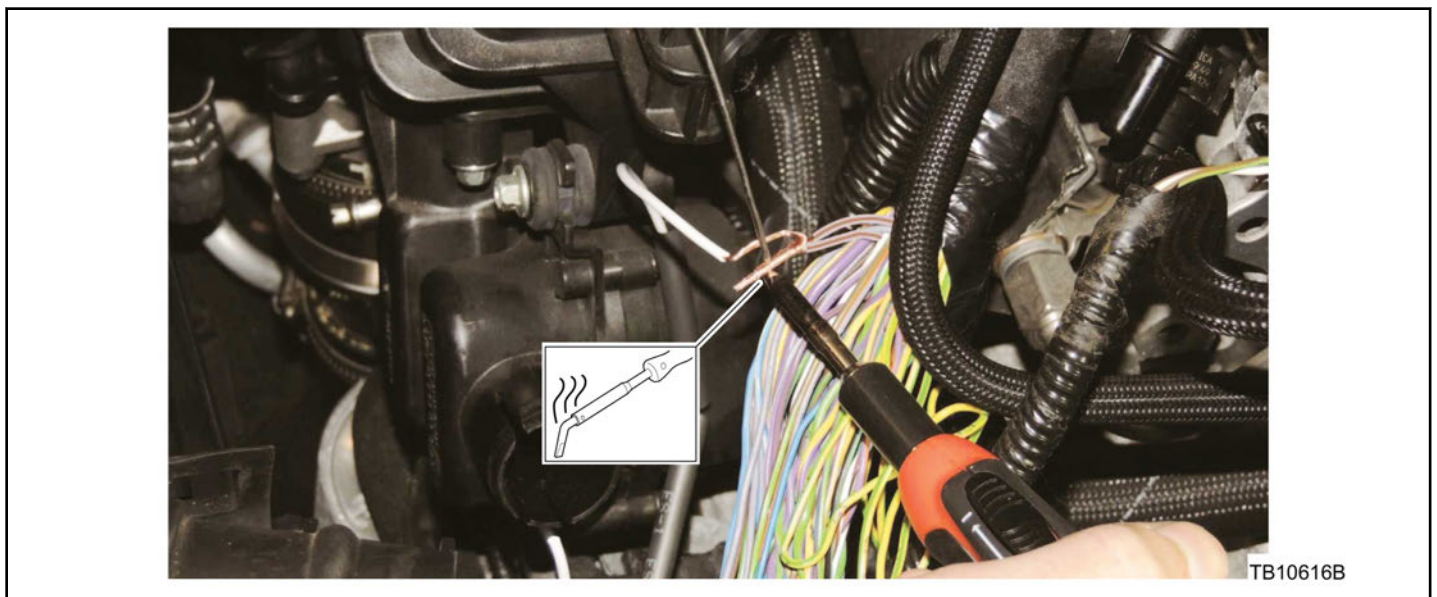

Figure 9 - Article 15-0007
- c. Position two (2) lengths of ES-1 double wall heat shrink tubing onto each wire.
15. Join the two gray/brown wires on the engine side of the harness with one end of the previously prepared 40.6 cm (16 in.) length of wire. Twist 13 mm (0.5 in.) of the ends of the wires together and bend the splice wire 90 degrees to the harness wire at the end of the twisted area. Solder the wires together using lead-free electrical solder, with the heat being applied opposite of the applied solder. (Figures 9 and 10)